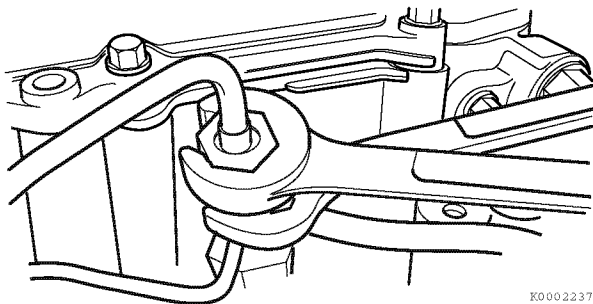

Figure 7-9
5. Next, loosen the fuel line nuts at the fuel injectors. Use one wrench to hold the fuel return line nut and fuel return line from rotating. Use a second wrench to loosen the fuel line nut (**Figure 7-9**). Repeat with the remaining fuel injectors.